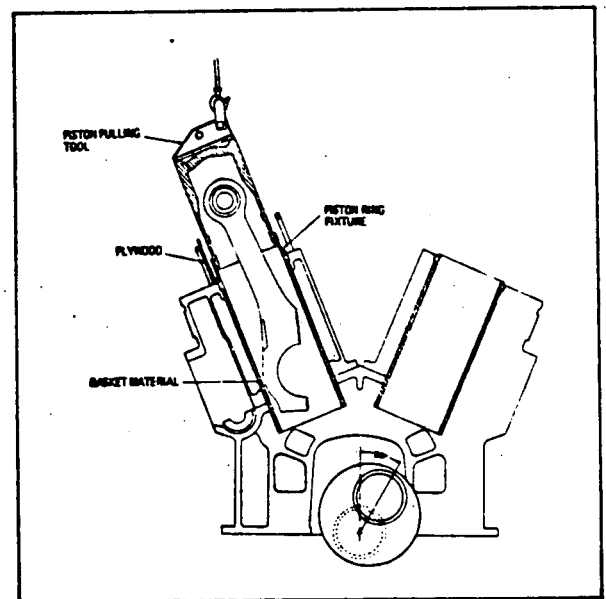

Figure 6-C-8. Piston and Rod Installation
g. Lower rod into cylinder (see figure 6-C-8). Hold piston rings in place as they enter the piston ring fixture. Insure ring gaps are staggered around circumference of piston.
j. Install connecting rod saddle and plate on master rod side (see figure 6-C-5) and set to hold master rod tight against crankpin.